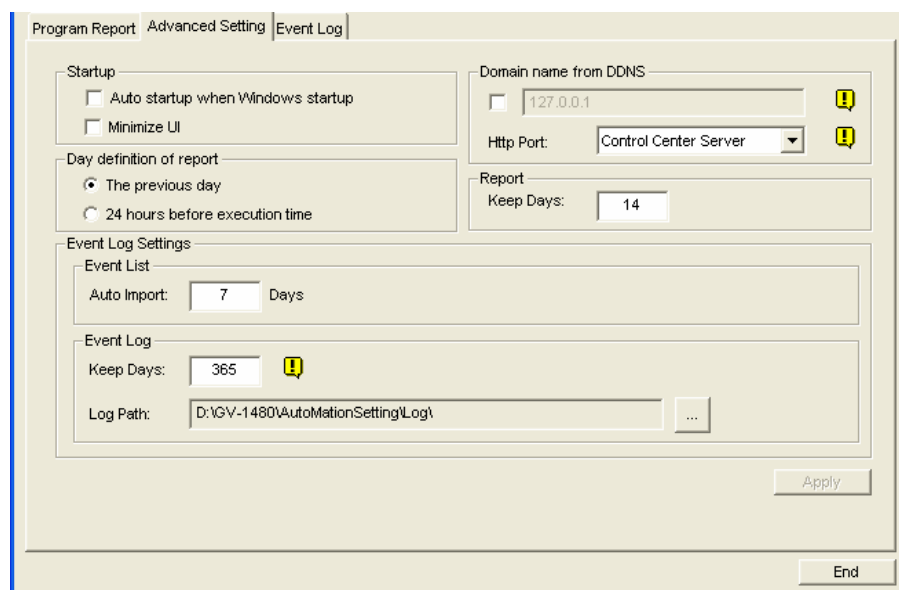

Figure 11-69
⑩ **Manual daily:** Manually generates a daily report.
- ☐ If you select **The Previous day** on the Advanced Setting tab (Figure 11-69), the report will be generated on the data of one day before your specified date. For example, you enter “12/10/2007” in the **Select Date** drop-down list. The report is generated on the data of 9th December 2007.
- ☐ If you select **24 hours before execution time** on the Advanced Setting tab (Figure 11-69), the report will be generated on the data of 24 hours before your specified date and time. Specify the date and time by using the **Select Date** and **Select Time** drop-down lists.
⑩ **Manual Weekly:** Manually generates a weekly report.
- ☐ If you select **The Previous day** on the Advanced Setting tab (Figure 11-69), the generated report will contain the data of 7 days before your specified date. For example, you enter “12/10/2007” in the **Select Date** drop-down list. The report is generated on the date from December 3rd to 9th in 2007.
- ☐ If you select **24 hours before execution time** on the Advanced Setting tab (Figure 11-69), the generated report will contain the data of 7 days counting back on your specified date and time. Specify the date and time by using the **Select Date** and **Select Time** drop-down lists. For example, if you enter “12/10/2007” and “01:00”, the report is generated on the time from 01:00 am, December 10th to 01:00 am, December 4th, 2007.
2. If the **Domain name from DDNS** option on the Advanced Setting tab (Figure 11-69) is not selected, this dialog box will appear.